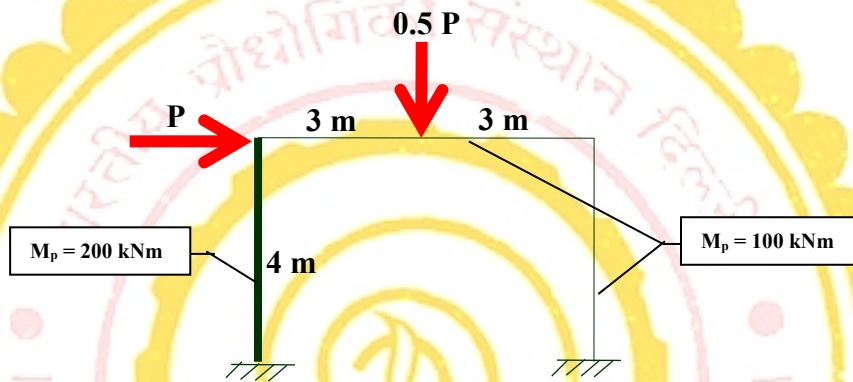

Figure 1
**Q1.** Determine the ultimate failure load “P” for the structure shown in Figure 1. Verify that the critical mechanism is satisfying yield criteria.